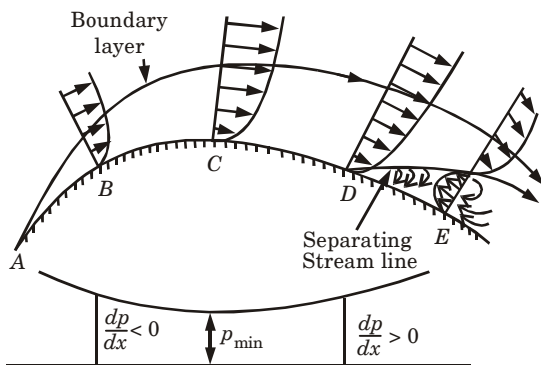

Fig. 3.29.1.
direction of flow $\left(\frac{\partial p}{\partial x} > 0 \right)$ i.e., the pressure should be in increasing manner in the direction of flow (Fig. 3.29.1).
The effect of pressure gradient $\left(\frac{\partial p}{\partial x} \right)$ on boundary layer separation can be explained by considering the flow over a curved surface *ABCDE* as shown in Fig. 3.29.1.
5. As explained in the Fig. 3.29.1, the velocity of the layer adjacent to the solid surface along the length of the solid surface goes on decreasing as the kinetic energy of the layer is used to overcome the frictional resistance of the surface.